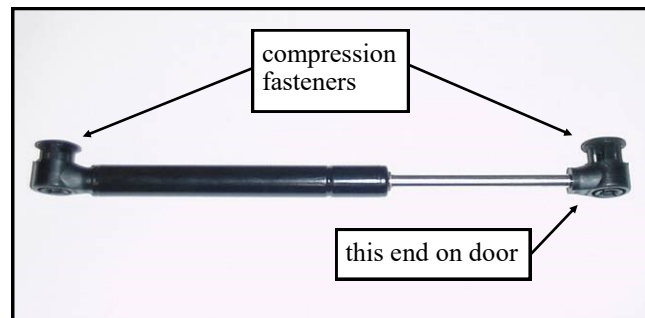

Fig. 16.2 (gas shock for hard sided doors only)
16.2 **HARD SIDED DOORS ONLY:** install the gas shocks to the side frames and doors with the small piston end towards the door. Press the button on the compression fasteners to lock the gas shock to the ball stud. See figure 16.2.